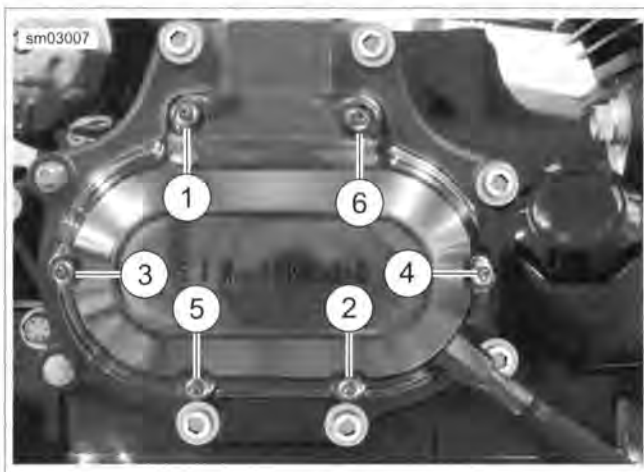

Figure 6-4. Cover Screws
4. See Figure 6-4. Remove six screws securing the clutch release cover. Remove the clutch release cover. Discard the gasket.
See Figure 6-4. Clutch release cover screws in positions (1) and (6) are shorter than the others.
7. See Figure 6-4. Install clutch release cover. Tighten to 132-156 **in-lbs** (14.9-17.6 Nm) in sequence shown.